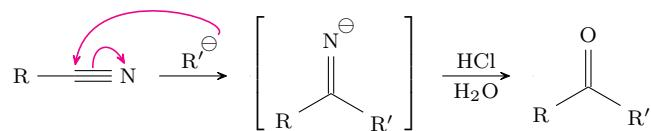

Figure 4.57: Organometallic addition to nitriles mechanism.
- Organometallic addition to nitriles (Figure 4.57).